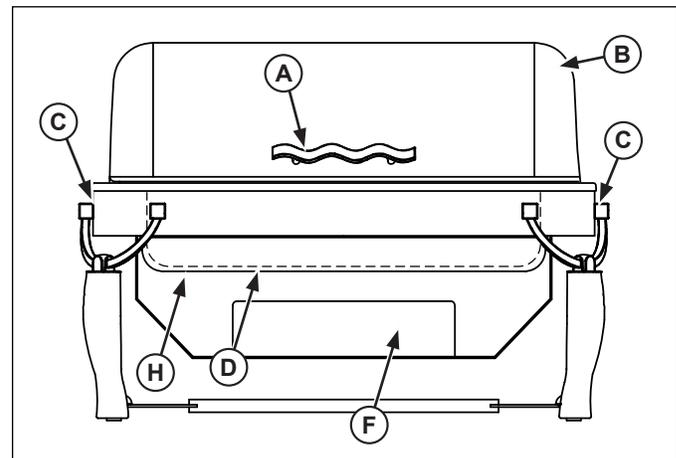

Figure 1. Chafer Features and Controls.
- (F) HEATER/FUEL TRAY. Holds the electric chafer heater or chafer fuel.
- (G) FUEL HOLDER with COVER. Designed to hold chafer fuel. Includes a paddle for extinguishing the fuel flame.
- (H) WATER PAN. Holds the water.
- (I) URN BODY. Holds the water.
- (J) HANDLE. Used to lift the urn body.
- (K) BASE. Supports the urn body or beverage body.
- (L) UTENSIL CUTOUT. Opening that allows the handle of a serving utensil remain in the insert with the cover closed.
- (M) BEVERAGE BODY. Holds the beverage product.
- (N) FAUCET. Opening that the beverage flows through.
- (O) FAUCET HANDLE. Controls the flow of beverage.
1. Remove the food pan (D) from the water pan (H) or remove the insert (E) from the urn body (I). See Figures 1 and 2.
2. Pour about 2 quarts (2 L) of clean fresh water into the water pan (H) or urn body (I).
9. Open the cover (B). Remove the food pan (D) or the insert (E). When removing hot food containers from unit use gloves, mitts or pot holders to protect hands. See Figures 1 and 2.
10. Allow ample time for the water to cool. Remove the water pan (H) or the urn body (I) and dispose of water.